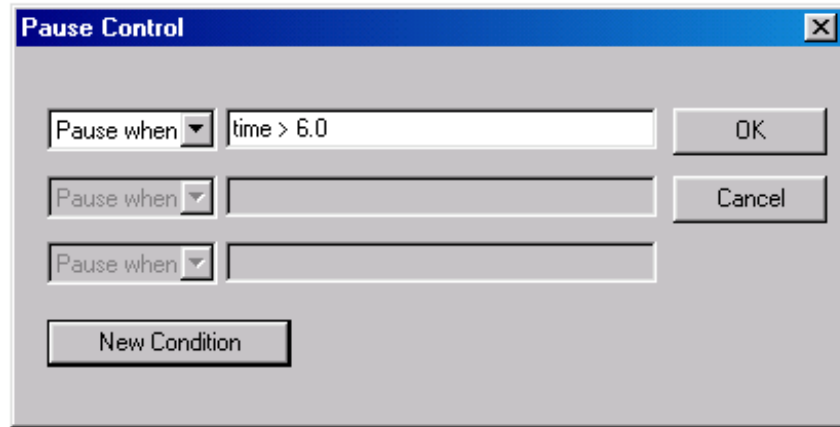

Figure 3
11. We are interested in seen the motion until up to 6 seconds. Therefore, set the Pause criteria as $t > 6.0$ in the Pause control window as shown in Figure 3.